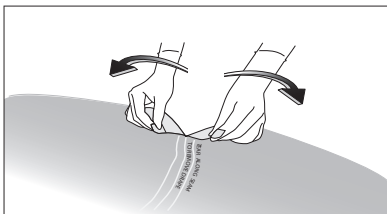

Figure 16
- Tear along seam to remove drape (refer to Figure 16).